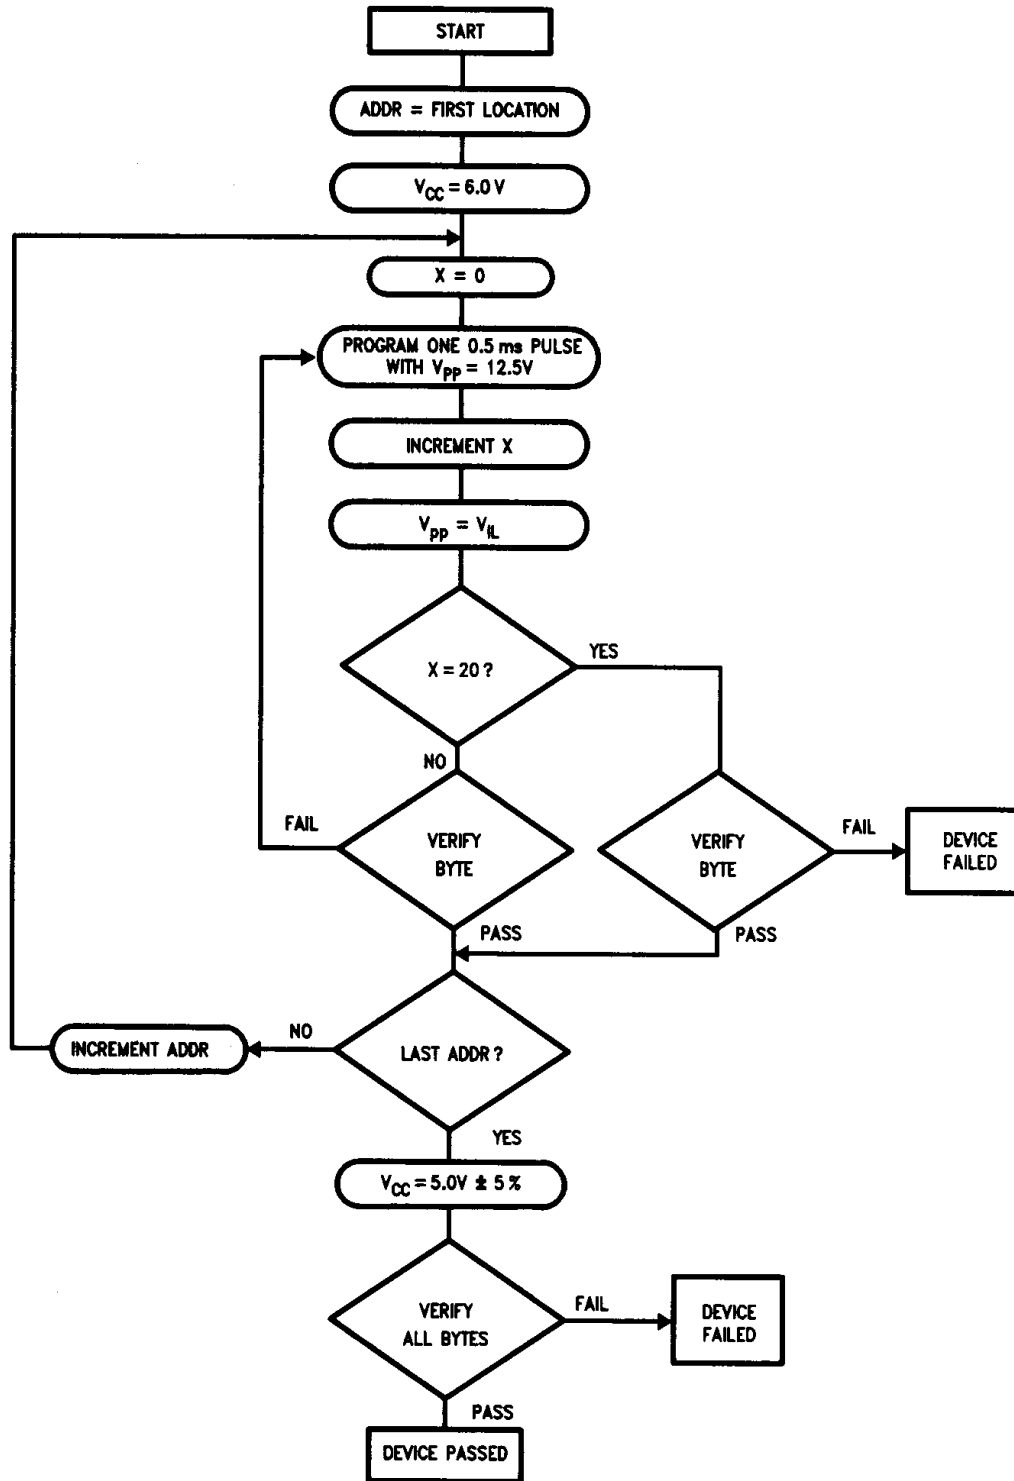

FIGURE 2
**Note:** Some programmer manufacturers due to equipment limitation may offer interactive program Algorithm (shown in Figure 2).